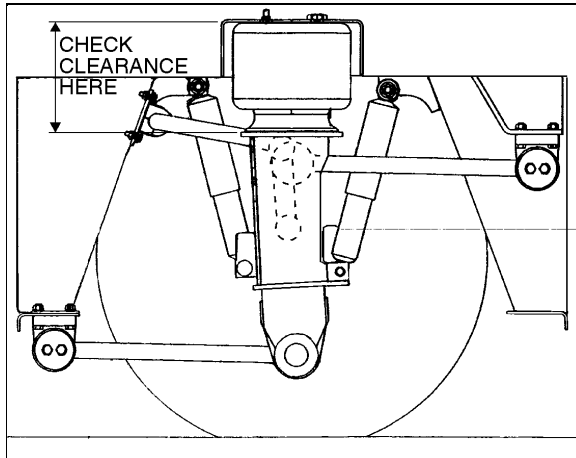

FIGURE 12: TYPICAL AIR SPRING CLEARANCE 16002
The appropriate vehicle body height is obtained by measuring the clearance of the air springs installed on the front and drive axles. The clearance should be  $12 \pm 0.25$ " ( $305 \pm 6$  mm) for the air springs installed on the front axle and  $11.5 \pm 0.25$ " ( $292 \pm 6$  mm) for those installed on the drive axle. Refer to figure 12 to identify the correct location where the measure has to be taken. At this point, it should not be necessary to make an adjustment under normal service conditions. However, if an adjustment is required, change the position of the overtravel lever in relation to the overtravel control body. The lever should be moved up to raise the height of vehicle, and down to lower it. Check that main air pressure is at normal operating pressure and raise the vehicle to the specified height.
**Note:** The measure should be taken from under the upper air spring support on subframe to top of the lower air spring support on axle (refer to fig. 12 for more details). If adjustment is required, begin with the drive axle.